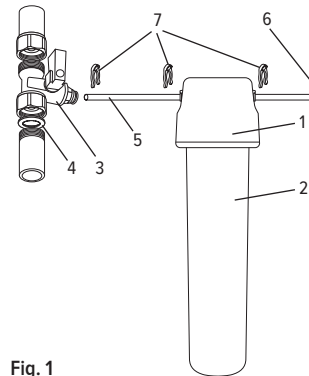

Fig. 1
1. Select appropriate location for the clean water faucet (not included in the delivery set), water filter (1) and location for the connection unit (3) to the water supply (fig. 1). Note that the connecting tubes should be loose and not bent.